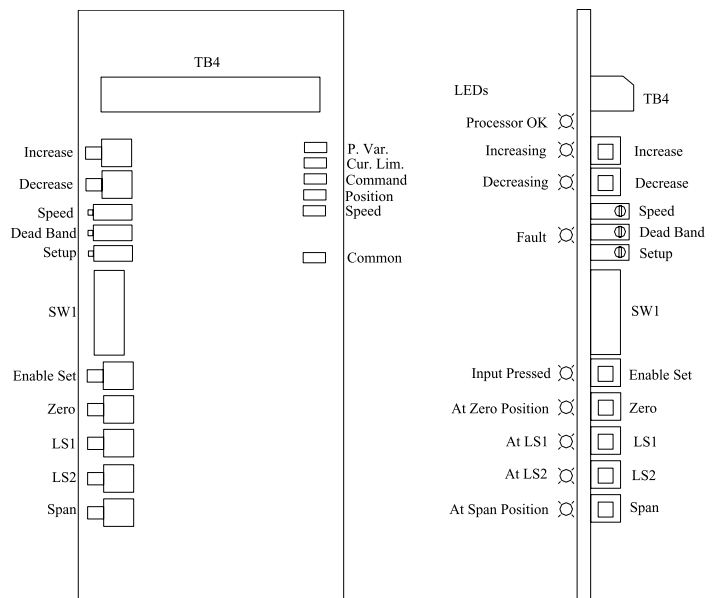

Figure 3
- 4) **Speed Adjust** Actuator output speed is set by the motor speed pot. Adjust the motor speed pot to desired actuator output shaft speed. CW rotation increases speed. The desired speed can be adjusted by using the graph shown in Figure 4 with a voltmeter connected between "SPEED" and "COMMON" test points (Figure 3).